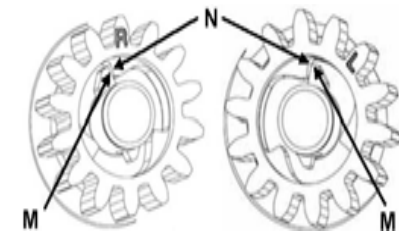

figure 19. Rear wheel pinions and pawls
Note: The pinion gear (H) is marked "R" on one side and "L" on the other. The pinion gear (H) is to be fitted with the "R" displayed when fitted on the right hand drive side of the mower and with the "L" displayed when fitted on the left hand drive side. Refer to figure 19. The right and left side of the mower is indicated while standing in the operator position.